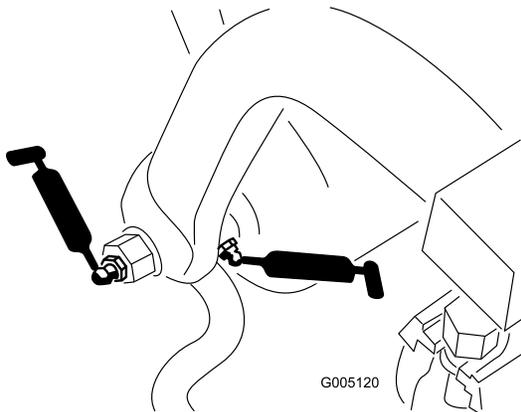

Figure 30
- Pull-frame shaft and roller (12) (Figure 30)